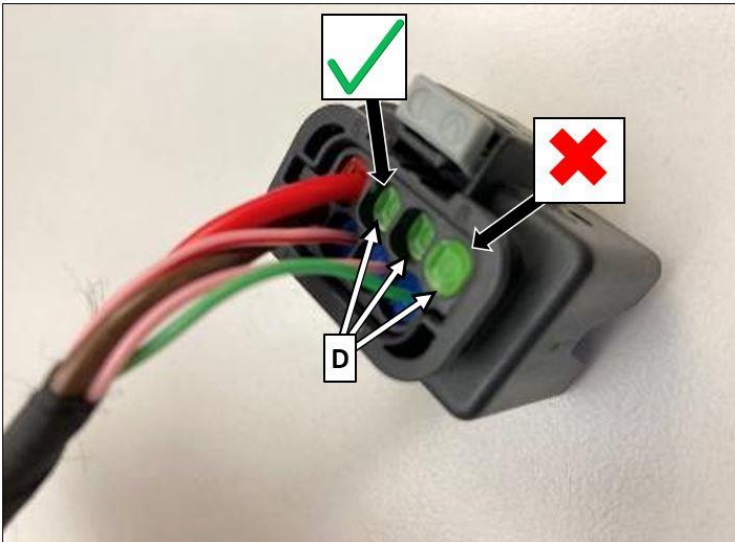

Figure 6
4. Check green blind plugs (D, Figure 6) on rear of plug.
5. i A green blind plug that is not seated correctly must be **pressed in further** as per Figure 6 (OK image).